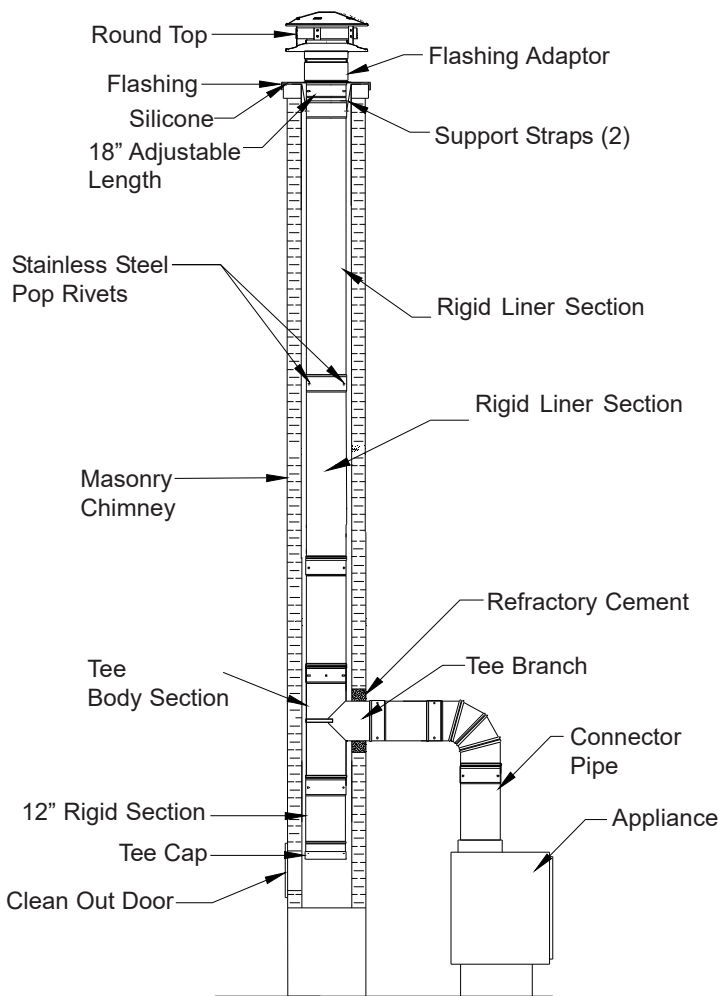

**FIGURE 7** - Preparing Opening Into Masonry Chimney
- Establish the exact location where the Tee Branch will pass through the masonry chimney to be connected to the Tee body on the Liner system. Make the opening as high as possible to maximize connector rise yet maintain the proper clearances (see Figure 7).